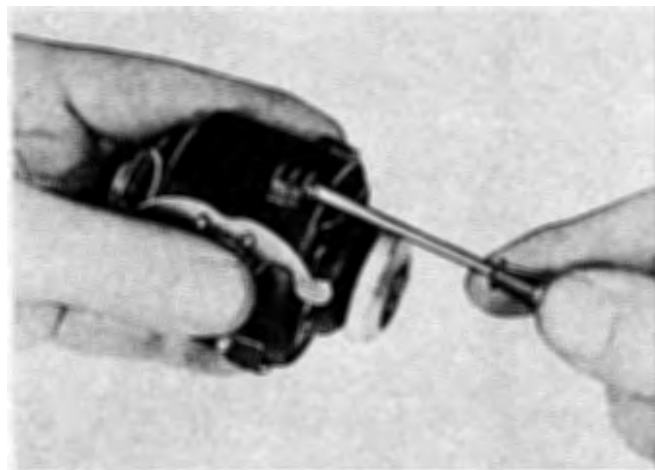

Figure 33
a. Remove the four fillister-head machine screws and lock washers (figure 33), and lift the rotor and housing from the case.